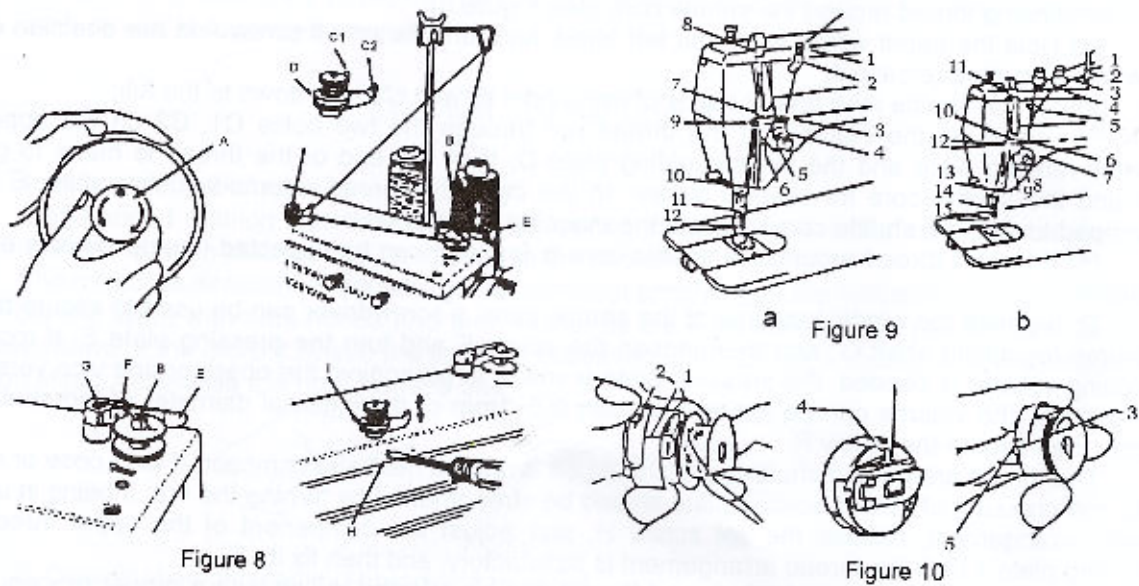

Figure 8
4. Winding thread around the shuttle core (see Figure 8)